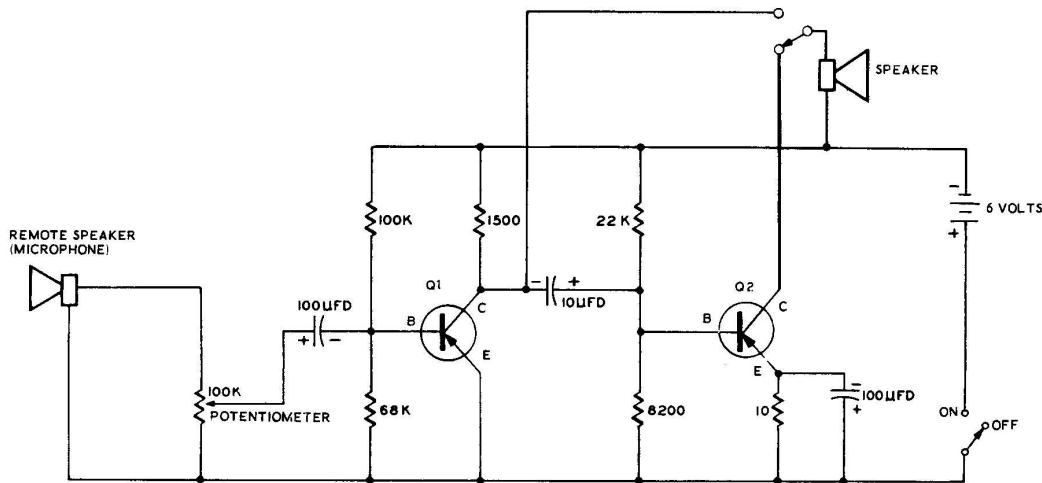

Figure 5U SCHEMATIC
- ( ) Connect the positive (+) lead of a 10  $\mu$ fd electrolytic capacitor to lug 2 of terminal strip A (NS). Connect the negative (-) lead of this capacitor to lug 3 of terminal strip B (NS).
- ( ) Connect a 1500  $\Omega$  resistor from lug 3 (S) to lug 4 (NS) of terminal strip B.
- ( ) Connect a 100 K $\Omega$  resistor from lug 4 (S) to lug 5 (NS) of terminal strip B.
- ( ) Connect a 10  $\Omega$  resistor from lug 4 of terminal strip A (NS) to lug 6 of terminal strip B (NS). Be careful not to confuse this 10  $\Omega$  resistor with the 10 K $\Omega$  resistor.
- ( ) Connect a 68 K $\Omega$  resistor from lug 5 (S) to lug 6 (NS) of terminal strip B.
- ( ) Connect a 22 K $\Omega$  resistor from lug 2 (NS) to lug 3 (NS) of terminal strip A.
- ( ) Connect an 8200  $\Omega$  resistor from lug 2 of terminal strip A (S) to lug 6 of terminal strip B (NS).
- ( ) Connect the positive (+) lead of a 100  $\mu$ fd capacitor to lug 6 of terminal strip B (S). Connect the negative (-) lead of this capacitor to lug 4 of terminal strip A (S).
- ( ) Connect a length of hookup wire from the +6 volt solder lug (S) to lug 2 of the ON-OFF switch (S).
- ( ) Connect a length of hookup wire from the -6 volt solder lug (S) to lug 3 of terminal strip A (S).
- ( ) The circuit shown in the schematic for Figure 5U is now connected on your experimental chassis. The 2-way switch is connected so that in one position (marked LISTEN) you will have a one-transistor amplifier, and in the other position (marked TALK) you will have a two-transistor amplifier.